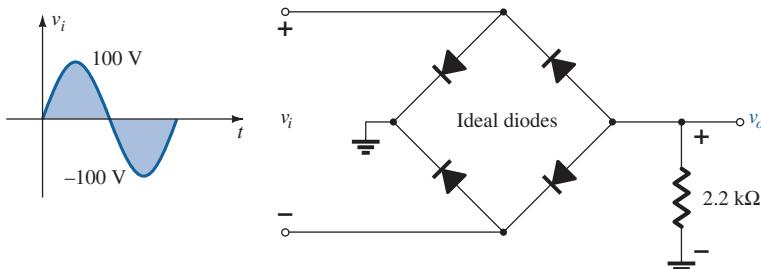

FIG. 173
29. Determine v_o and the required PIV rating of each diode for the configuration of Fig. 173. In addition, determine the maximum current through each diode.